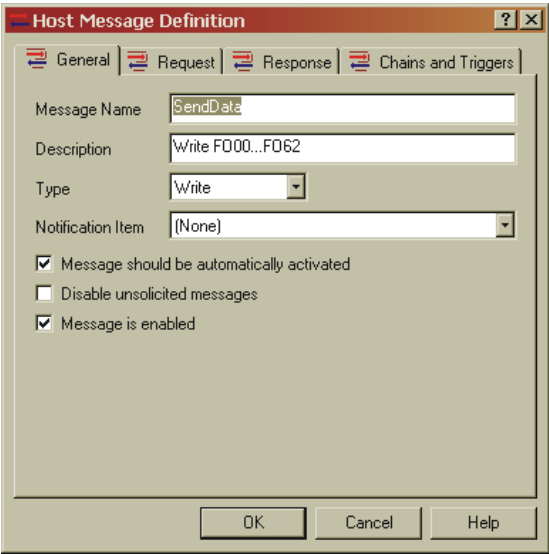

FIG. 213: HOST MESSAGE DEFINITION
Step 35. Click on Host Message (See Fig. 212) The Host Message Definition page appears. (See Fig. 213)